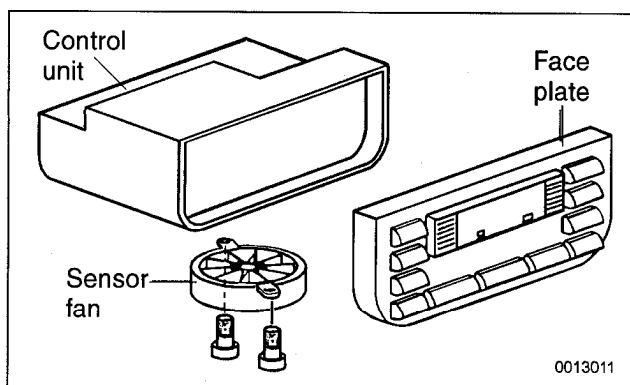

Fig. 25. Digital display A/C control head components.
3. Digital display models: Disconnect electrical harness connector from control head housing. Remove screws holding sensor fan to bottom of control module and remove. Refer to Fig. 25.
The A/C control module for cars with the digital display is mounted on the back of the control head. See Fig. 25.